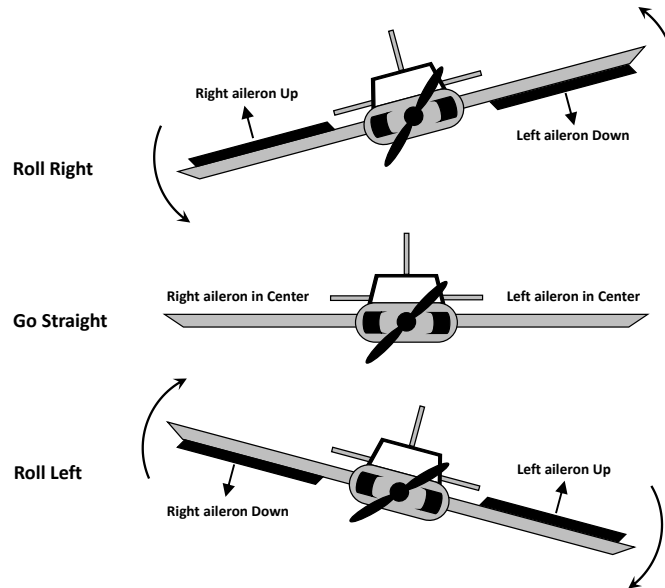
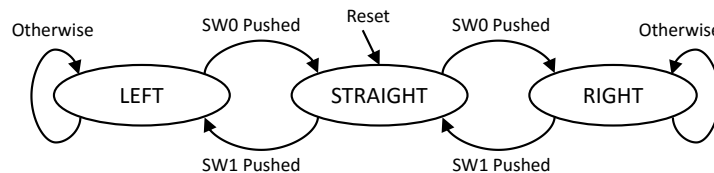

Figure 2: Aileron positions and airplane’s direction of motion.
Figure 3: FSM of airplane steering controller.
3. [30 points]: You need to implement a simple controller to steer an RC airplane in flight. The airplane can be turned towards left/right or it can fly straight based on the positions of two ailerons, one on each wing, as shown in Figure 2.
Two push switches SW0 and SW1, connected to external interrupts INT0 and INT1 respectively, are used to control the direction of the airplane motion according to a finite state machine (FSM) shown in Figure 3. Upon startup, the system is in STRAIGHT state. When SW0 or SW1 is pushed once, the system goes to RIGHT or LEFT state respectively, and the airplane turns right or left by manipulating the ailerons according to the Figure 2.
Assuming that SW0 and SW1 are hardware debounced (i.e. no software debouncing is needed), implement the controller FSM from Figure 3 inside INT0 and INT1 ISRs. In each of the states, modify the duty cycle variables `left_duty_cycle` and `right_duty_cycle` accordingly. We assume that these duty cycle values are used to program the PWM duty cycles in the ISR indicated in Part A which we do not ask you to program.
Hint: It would be useful to split the FSM from Figure 3 into two FSMs, one for each input switch.